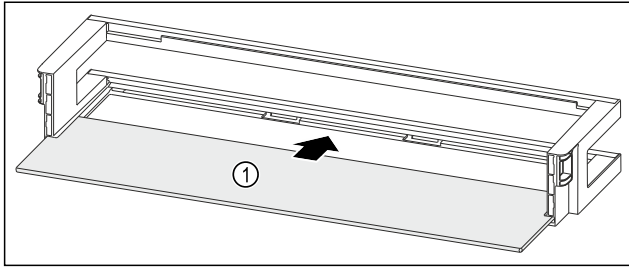

Fig. 123 Door rack with shelf
- Push the shelf Fig. 123 (1) into the side recesses.